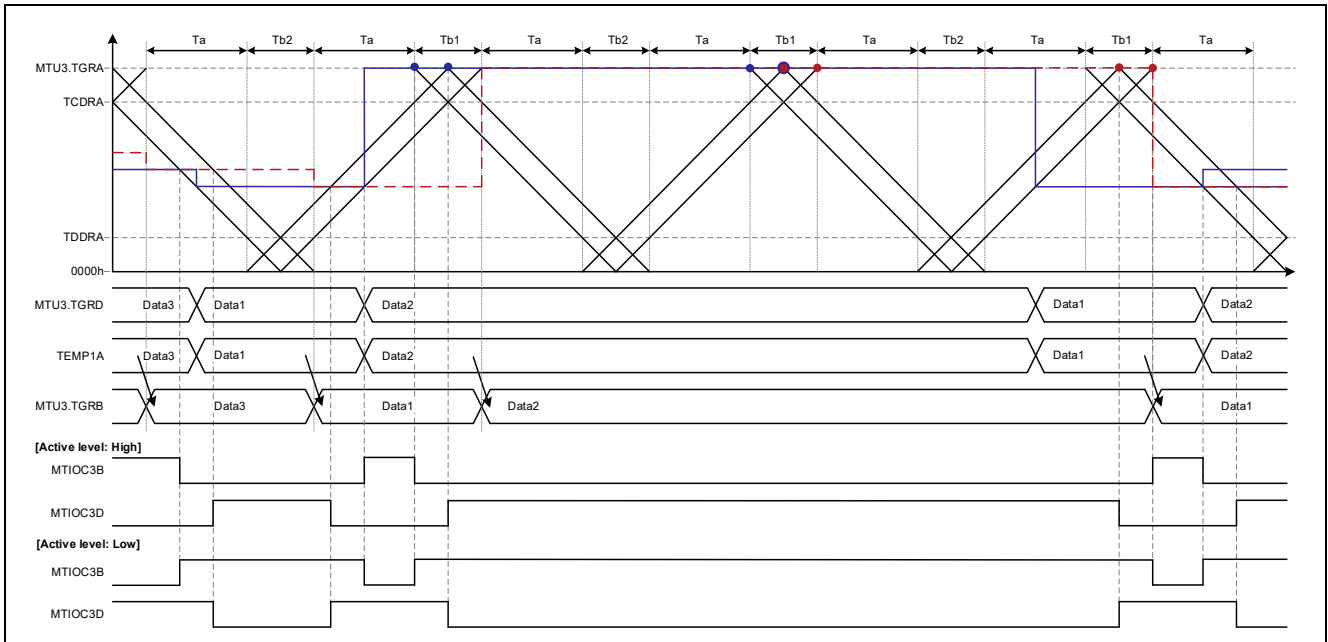

Figure 1.10 Complementary PWM Mode 3 Operation Example
Of the 0% and 100% duty cycle waveform output operation examples in each MTU operating mode listed in Table 1.6, Figure 1.3 to Figure 1.10 illustrate the 0% duty cycle output operation examples.
- [Operation example 8] Figure 1.10, Complementary PWM Mode 3, Output Start: Crest, Ta Interval Overwrite
Figure 1.10 shows an operation example of buffer overwrite in the Ta interval in complementary PWM mode 3. Except for the difference in the buffer overwrite timing, the operation is the same as that shown in Figure 1.9.